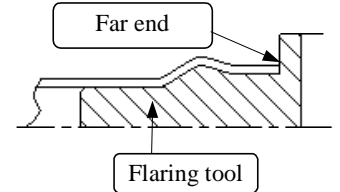

Figure 43. Flaring of the tube end
- Immediately after preheating, insert the heated tube into the flaring tool until it stops at the far end as shown in Figure 43, and hold the tube for approx. 10 seconds to cool it down.